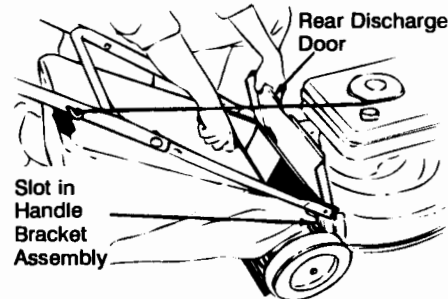

Figure 13-For Models with 8" rear wheels.
- **For Models with 8" rear wheels.** Place the hooks on the grass catcher into the slots in the handle bracket assemblies. See figure 13. Release the rear discharge door.
**For Models with 8" rear wheels.** Lift the rear discharge door on the mower. Lift the grass catcher up, out of the slots in the handle bracket assemblies. Release the rear discharge door. See figure 13.